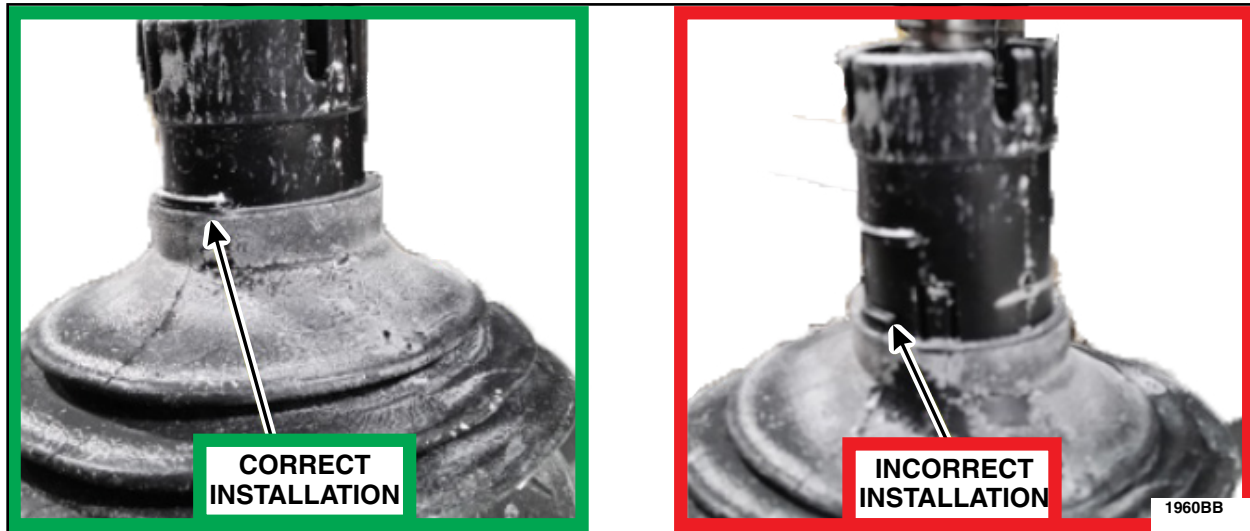

FIGURE 21
30. Inspect the NVH boot for the correct installation position. See Figure 21.